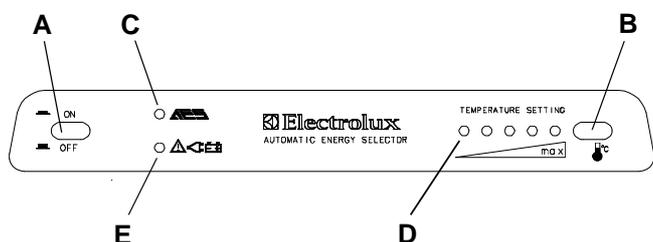

FIG. 1
The control panel is shown in fig.1.
All references are to fig. 1.
WARNING: It is not allowed to have a naked flame at a gas filling station. If you are not sure, that your stop is shorter than 15 min., you are advised to switch off the main switch (A), fig. 1, when stopping at a filling station.
The AES system is designed to guarantee the maximum cooling efficiency under any circumstances. Therefore, the system monitors continuously the voltage level while being in either 12 V DC or 230-240 V AC mode. If the voltage is too low, the system switches to Gas mode shown by the yellow LED (**E** in fig. 1.). The system stays in Gas mode, until the electrical supply voltage has recovered to normal level.
The position number refers to fig.1.
1. Set the switch (A), fig. 1, to "OFF".